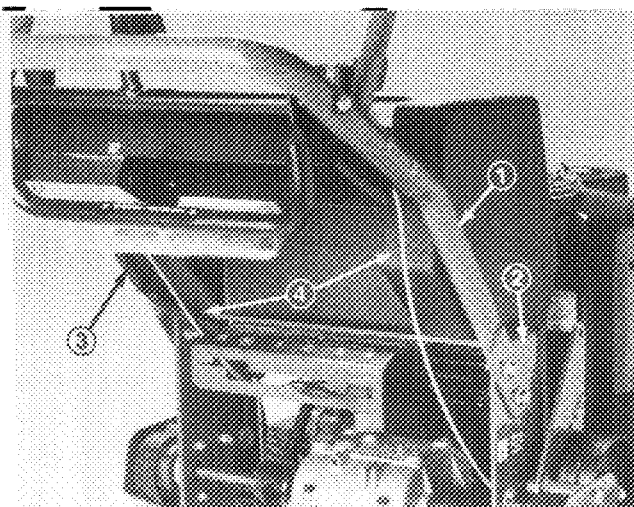

Figure 4
1. Align upper handle mounting holes with desired mounting holes in frame and secure each side with (2) 3/8 -16 x 1" lg. flange capscrows and flange nuts (Fig. 4). Route wire harness and cables under frame (Fig. 4).